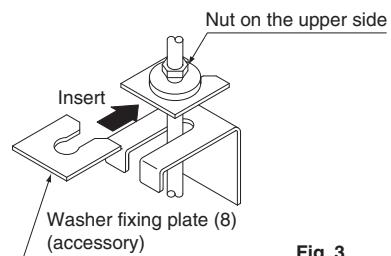

Fig. 3
(1) Temporarily install the indoor unit.
- Connect the hanging brackets to the hanging bolts. Be sure to use and tighten the nut and washer (procured in the field) for each hanging bracket from both upper and lower sides of the hanging bracket. (Refer to Fig. 3) At that time, the fall of the washer for the hanging bracket can be prevented if the washing fixing plate (8) is used.